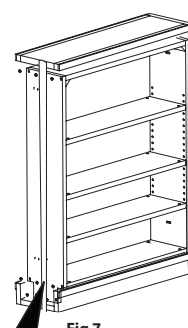

Fig 7
Step 6. Remove front mounting strap. See Fig 7.